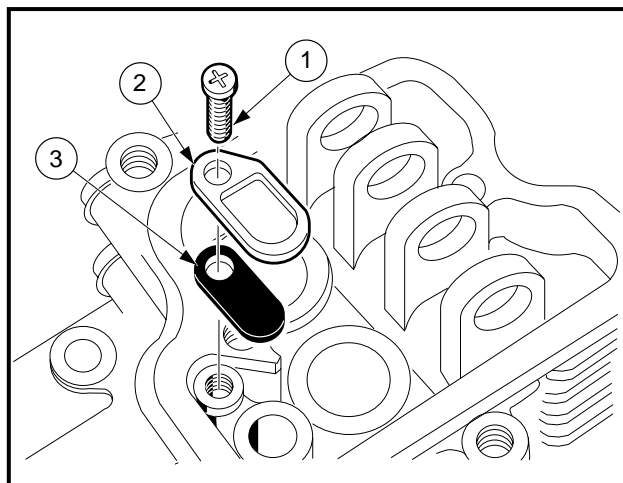

Figure 13-15 Reed Valve
1. Unscrew the mounting screw (1) and remove the back plate (2) and reed valve (3) (**Figure 13-15, Page 13-12**). See **Page 13-21** for Installation.